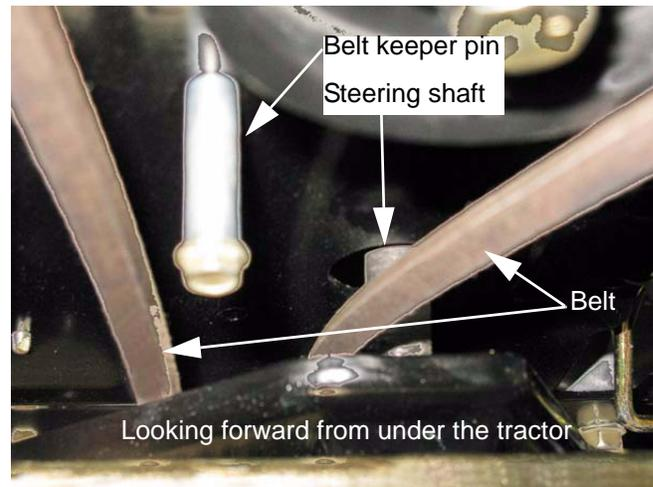

Figure 5.59
- The belt is routed to the left of the steering shaft, and the fore-most keeper pin goes between the runs of the belt. See Figure 5.59.